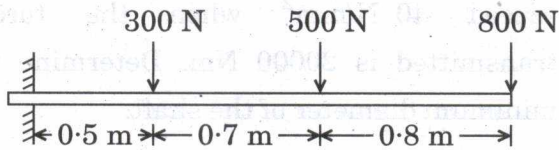

Figure 1
- (b) A cantilever beam of length 2 m carries the point loads as shown in the Figure 1. Draw the shear force and bending moment diagrams for the cantilever beam.